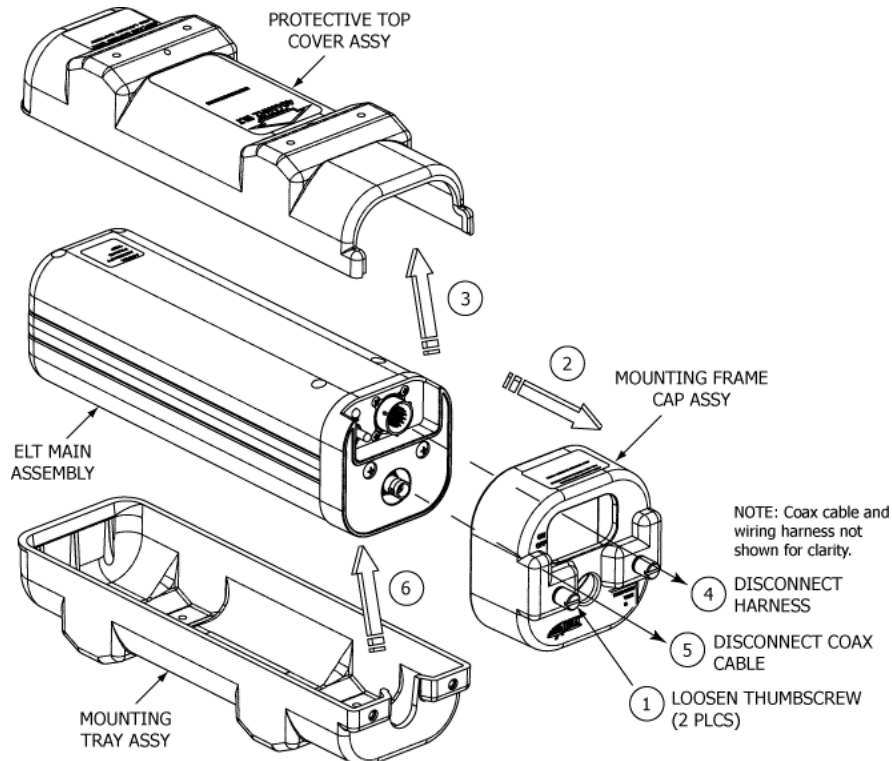

Figure 12 ELT Removal Sequence
- 1) See Figure 12 ELT Removal Sequence.